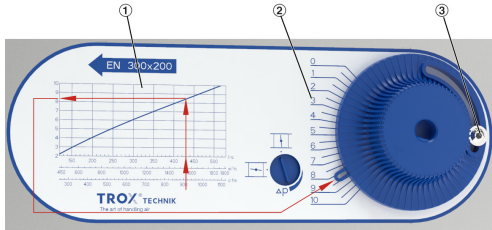

Fig. 10: Setting the volume flow rate
1. ▶ Using the volume flow rate scale (Fig. 10/1), determine the setting value (1-10) for the desired volume flow rate (cfm).
2. ▶ Loosen the hexagon socket screw (Fig. 10/3).
3. ▶ Set the rotary knob to the determined value of the setting scale (Fig. 10/2) and fix it with the hexagon socket screw (Fig. 10/3).